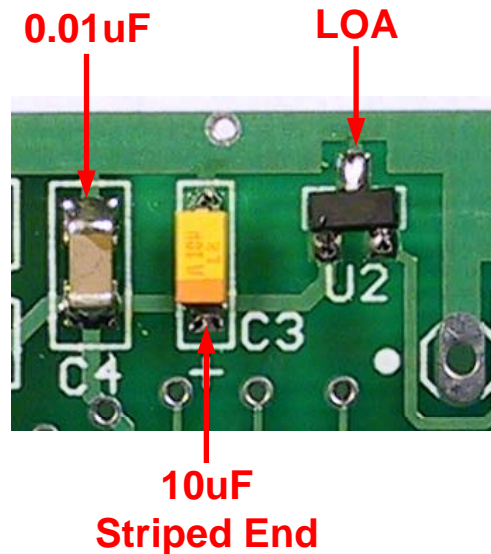

Figure 12. U2, C3, C4 Locations
- ❑ Remove U2, LM3480-3.3 from the active components compartment. This IC is marked **LOA**. Install it at U2, as shown in **Figure 12**.
- ❑ Remove C3, 10uF tantalum capacitor, from the top compartment. It is marked either 106 or 10u. Refer to **Figure 12** for placement and install it at C3. Make sure the striped end is closest to the silkscreened “+” sign.
- ❑ Remove C4, 0.01uF, from the top compartment. The film covering this part is **BLUE**. Refer to **Figure 12** and install it at C4.